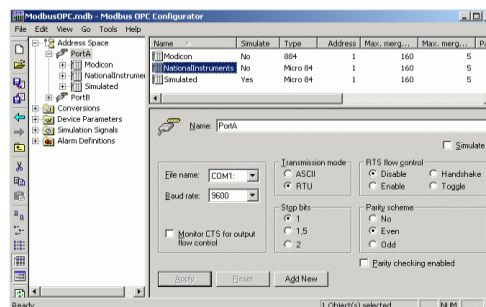

Figure 3.2: Modbus Configuration Screen for (Parity)
- Configuring Port:** A port is equivalent to a physical serial port in the computer. To correctly configure a port means to set up a serial port as a File name (COM 1, COM2, COM3, or COM4), communication speed (Baud rate), and protocol characteristics: Transmission mode (ASCII or RTU), RTS flow control, Stop bits and Parity scheme. When the Parity checking enabled check box is not checked, it will force the server to ignore the parity bits in the message. As shown in Figure3.2